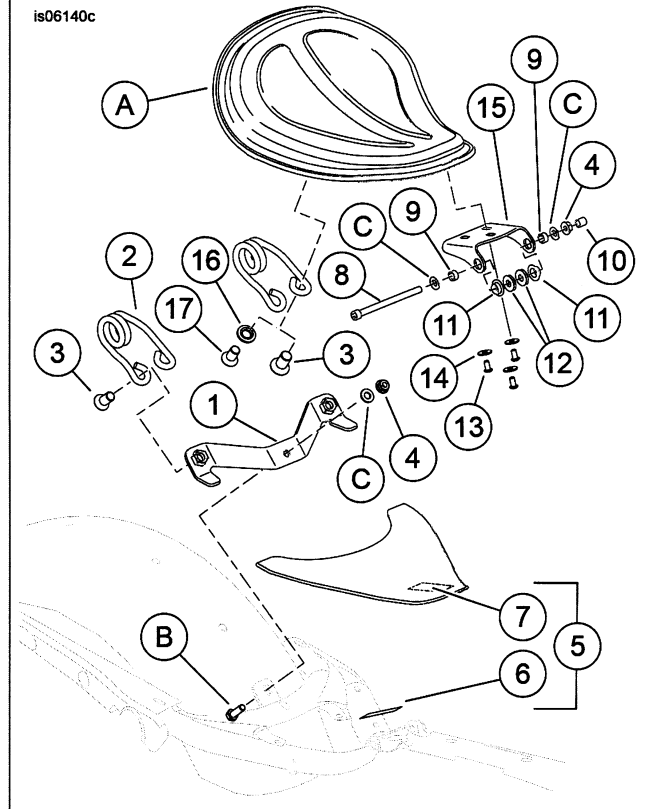

Figure 3. Service Parts: XL Spring Seat Mounting Kit
See Figure 3 and Table 1.
4. See Figure 3. Install each seat spring (2) to the spring saddle mounting bracket (1) as shown, with one screw (3) from the kit. Tighten the screws to 34–41 N·m (25–30 ft-lbs).
- a. Install the mounting bracket (1) over the frame tab. Align the bracket so the two retaining tabs hold down and are fully seated on the frame cover.
- b. Secure the mounting bracket with the original equipment (OE) screw (B) and washer (C), and one flange nut (4) from the kit. Do not fully tighten.
6. Install the saddle pivot bracket (15) to the saddle with three washers (14) and screws (13). Tighten the screws to 5.5–8 N·m (48–72 in-lbs).
- a. Install bushings (5) into the pivot bracket from the inside.
- b. Install an OE washer (3) and a sleeve spacer (4) from the kit onto screw (2). Insert the screw through the right side of the pivot bracket. Install a thin spacer (10) onto the screw threads.
- c. Install the pivot bracket over the rear fuel tank mounting point (6).
- d. Install a thin spacer (10) between the left side of the fuel tank mounting point and the left bushing. Slide the screw through the left side of the pivot bracket.
- e. Secure the screw with a sleeve spacer (4), OE washer (3) and nut (8). Tighten the nut and screw to 20–27 N·m (15–20 ft-lbs).
- f. Install the thread protector cap (7) over the screw threads.
9. See Figure 3. Secure the saddle (A) to the springs (2). **Seats with 1/2 in hole:** secure with screws (3). Tighten the screws to 34–41 N·m (25–30 ft-lbs). **Seats with 3/8 in hole:** secure with screws (17) and spacers (16). Tighten the screws to 14–16 N·m (120–144 in-lbs).